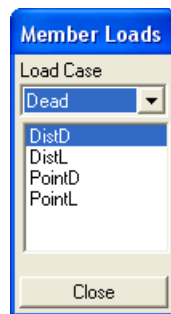

Figure 5-20 Member Loads dialog box
- From the **Assign** menu, choose **Member Loads**. The modeless dialog box of Figure 5-20 appears. To end member loads assignment, choose the CLOSE button.